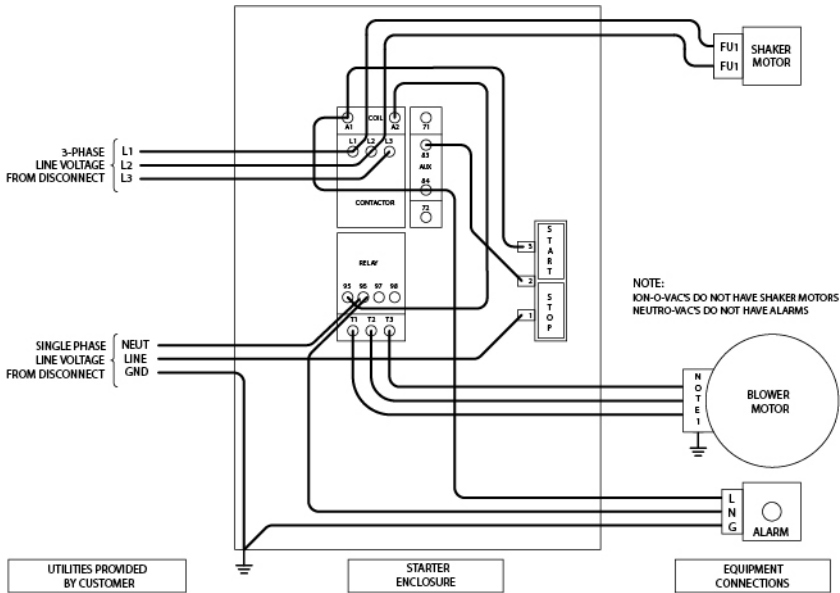
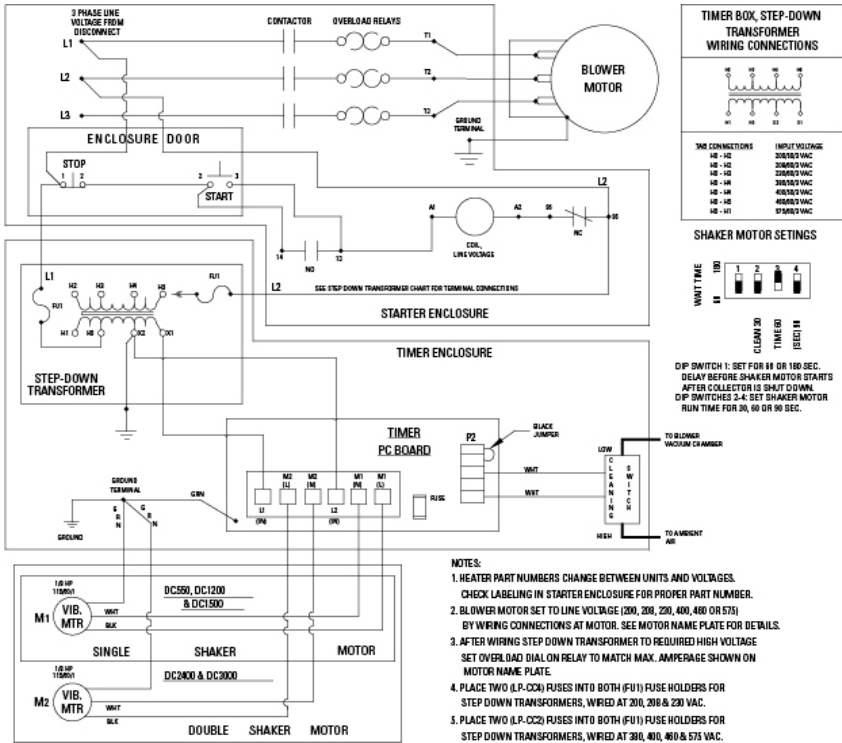

Figure 6: Starter Enclosure Wiring With Push Button Start/Stop Switch
Figure 11: Wiring Connections
1. Make electrical connections to disconnect switch (customer-supplied), fan starter, fan motor and control box (reference Figures 6, 7, 8, 9 & 10). See electrical wiring diagram inside the control box cover (reference Figure 11). Fan access is located through the top door of the cabinet.